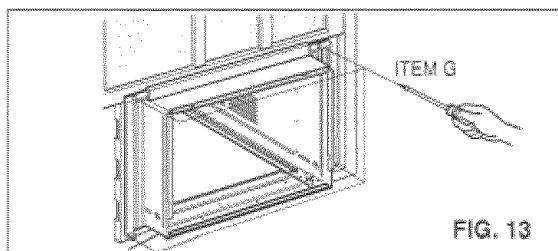

FIG. 13
- 12** Pull each side curtain fully to each side of window opening. Attach each side curtain to the window sash using screws (ITEM G). (FIG. 13)